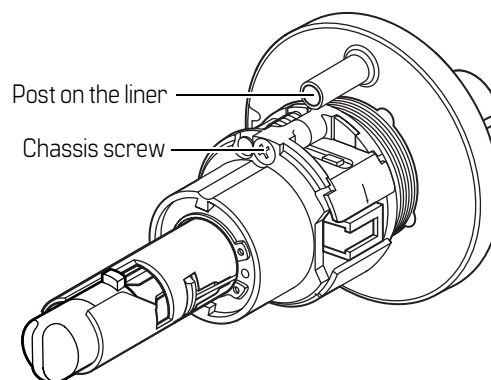

**Figure 3.6** Removing the outside rose
3. Retract the rose locking pin, and rotate the rose and liner assembly until it is free from the hub. See Figure 3.6.